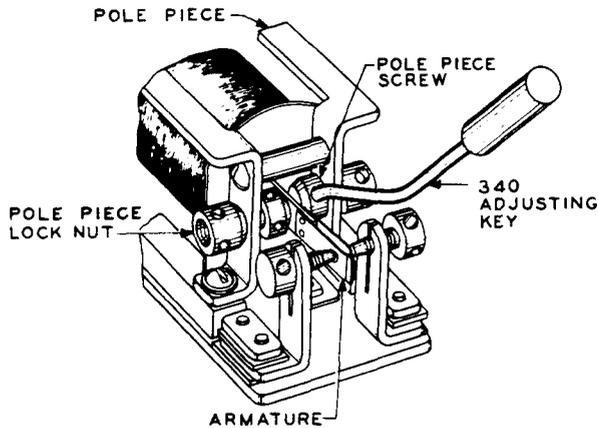

Fig. 10 – Method of Adjusting Pole-Piece Screw
(9) **Bias:** To adjust the relay for zero bias turn one pole-piece screw in with the 340 adjusting key or KS-6854 screwdriver as shown in Fig. 10 until it strikes the armature and moves the armature sufficiently to just rest against the contact screw on the side opposite to that on which the pole-piece screw is being advanced. This condition shall be met with the locknut tight on 215-type relays or tensioned as outlined in 3.09(1) for 255-type relays. Then back off the pole-piece screw one-half turn after first loosening the locknut if a 215-type relay. Tighten the locknut securely if a 215-type relay. Turn in the other pole-piece screw until the relay meets the bias requirement after the locknut has been securely tightened. Tighten the locknut if a 215-type relay by holding the pole-piece screw with one 340 adjusting key and turning the locknut with the other or, if the relay is a 255 type, adjust the knurled tension nuts when required, by turning with the fingers. Check that the sensitivity requirement is met.